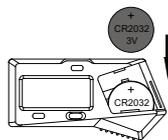

fig.2
- Put CR2032 battery into battery house, the positive side of battery (+) should face out (fig.2)